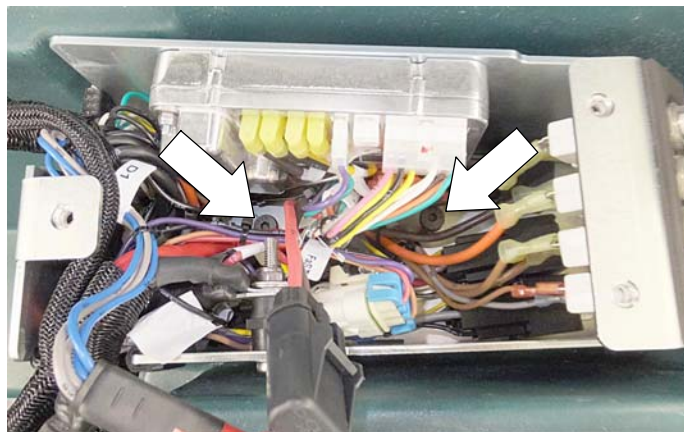

Fig. 4
2. Remove the two shoulder bolts at bottom of circuit breaker box (Figure 4).